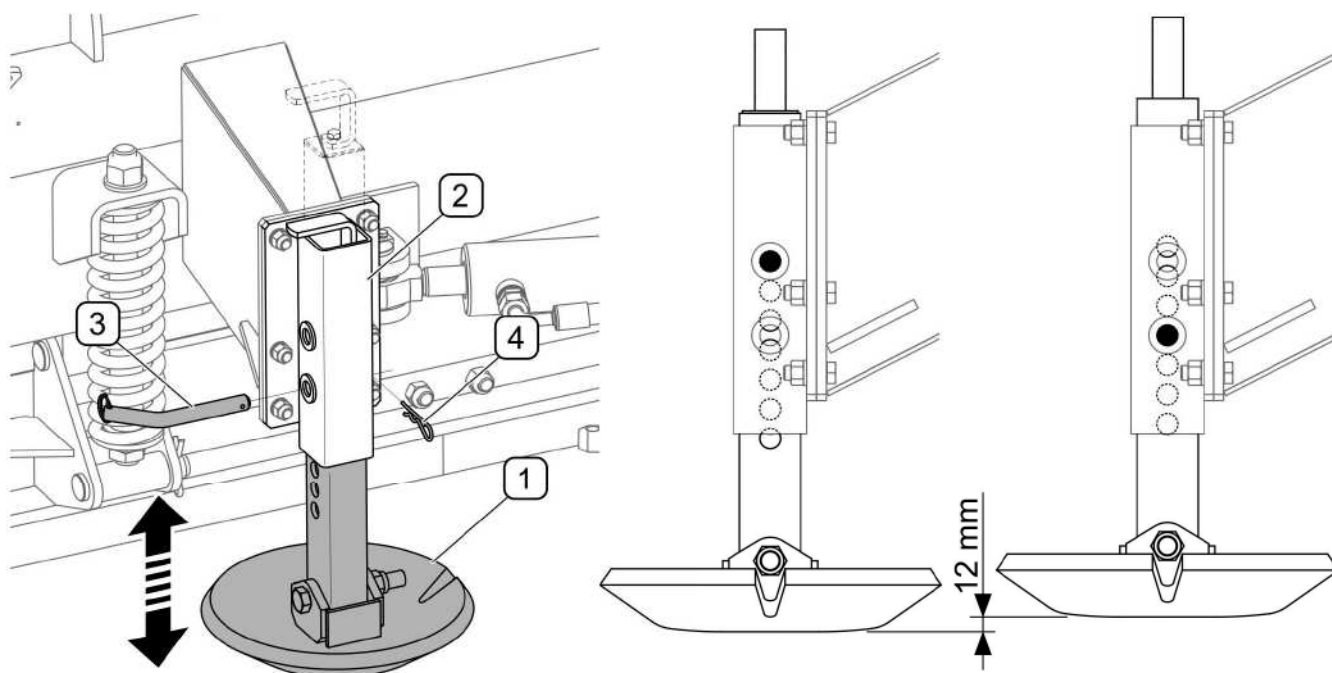

FIGURE 4.8 Height adjustment in ploughs equipped with slides.
In ploughs equipped with slides (FIGURE 4.8) height adjustment is performed by unlocking pin (4) and the ejection or withdrawal of the slide (1) in the guide (2). Location of the guide slide can be changed every 12 mm using the one of the openings in the guide. When the height is set, slides must be protected with a pin (3) and spring linchpin (4). Slides of the left and right blade should be put forward at the same height. Adjustment of the left and right slide is carried out in the same way.